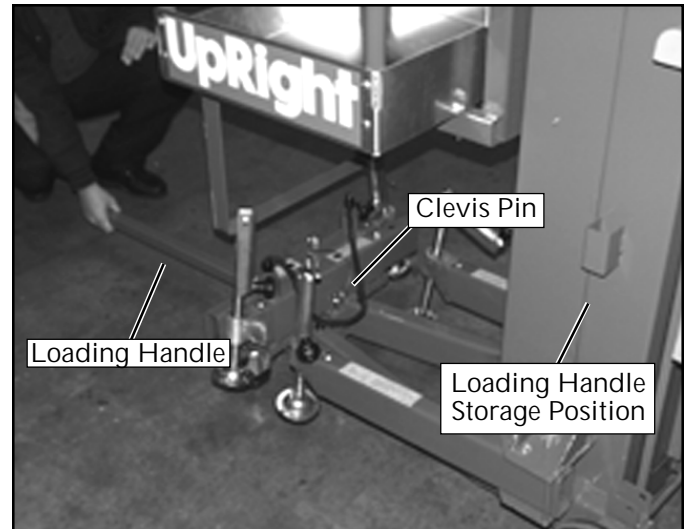

Figure 6: Installing loading handle
5. Remove loading handle from storage position on left side of mast. Secure loading handle in loading position in base of unit using clevis pin. (Figure 6).
2. Remove loading handle from its storage position on left side of mast. Secure handle in base of unit using clevis pin (Figure 6).